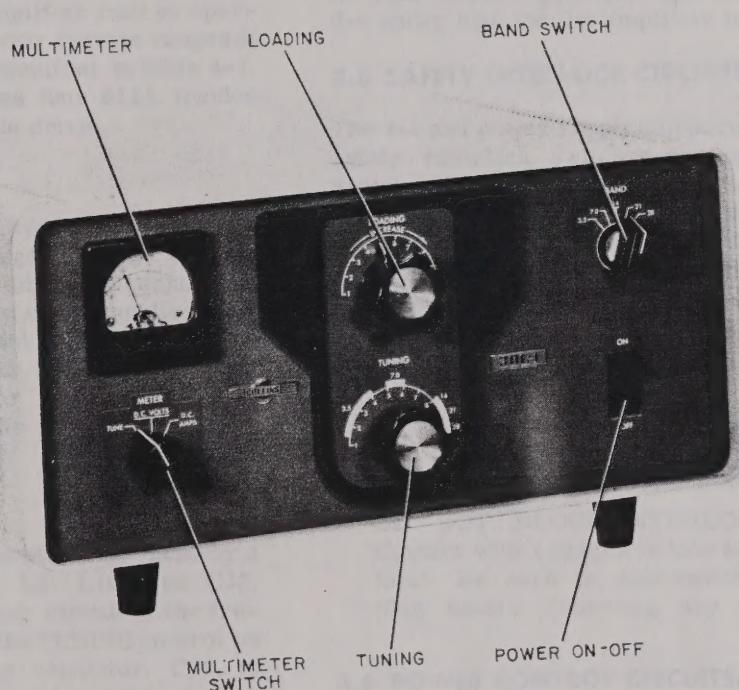

Figure 2-1. 30L-1 Operating Controls
- b. Make sure the ON-OFF switch in the 30L-1 is in the OFF position as shown in figure 2-1.